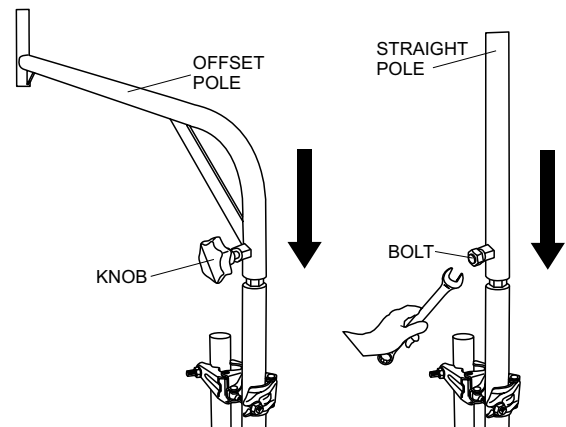

Figure 30. Offset Pole Attachment
5. Place the offset pole (or an optional straight pole, if desired) on top of the straight pole. Tighten knob or bolt securely. See Figure 30.